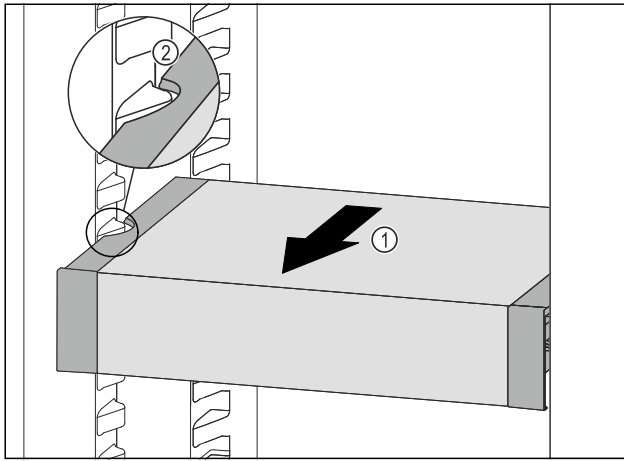

Fig. 116
- Pull VarioSafe forwards Fig. 116 (1) until the recesses in the side of the VarioSafe are at the level of the support rib in the fridge section. Fig. 116 (2)